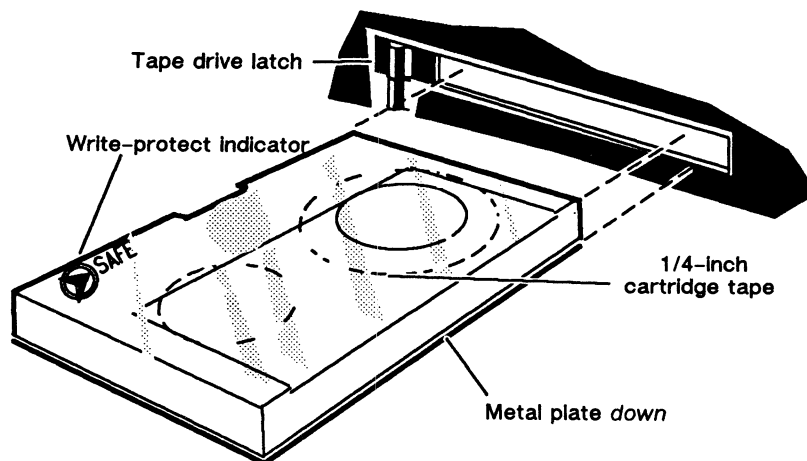

Figure 5-1 Inserting the AViON System Diagnostics Cartridge Tape
1. Make sure the write-protect indicator on the cartridge tape labeled “AViON System Diagnostics” is set to “SAFE,” and then insert the tape into the tape drive, as shown in Figure 5-1.